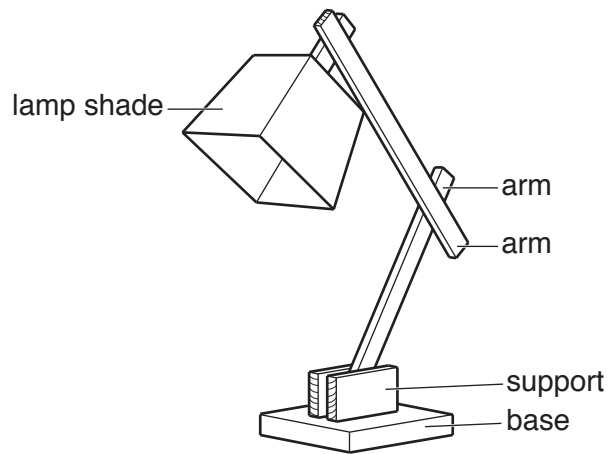

Fig. 12
- 12 Fig. 12 shows an incomplete design for a reading lamp to be made in a school workshop. The arms, base and supports are made from hardwood.